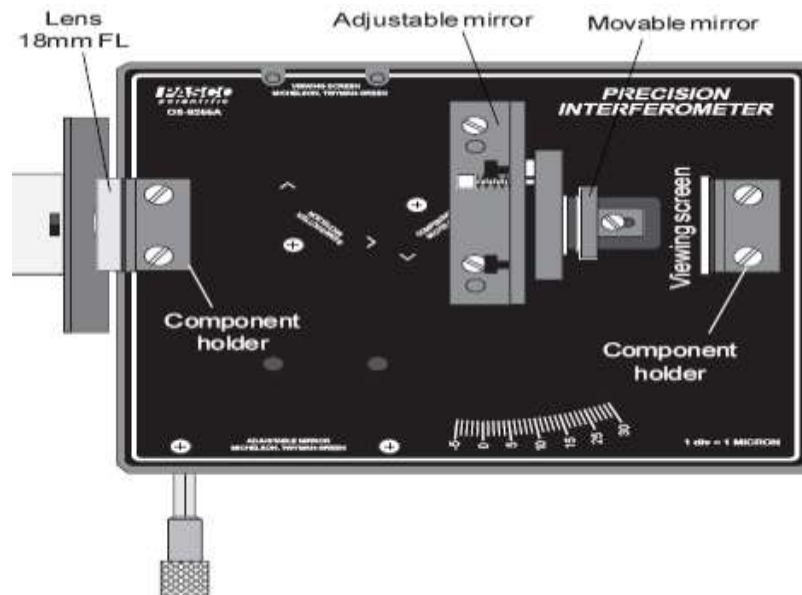

Figure 6.3. Fabry-Perot Mode Setup
1. Mount the adjustable mirror where indicated on the interferometer base and one component holder in front of the movable mirror. See Figure 6.3.